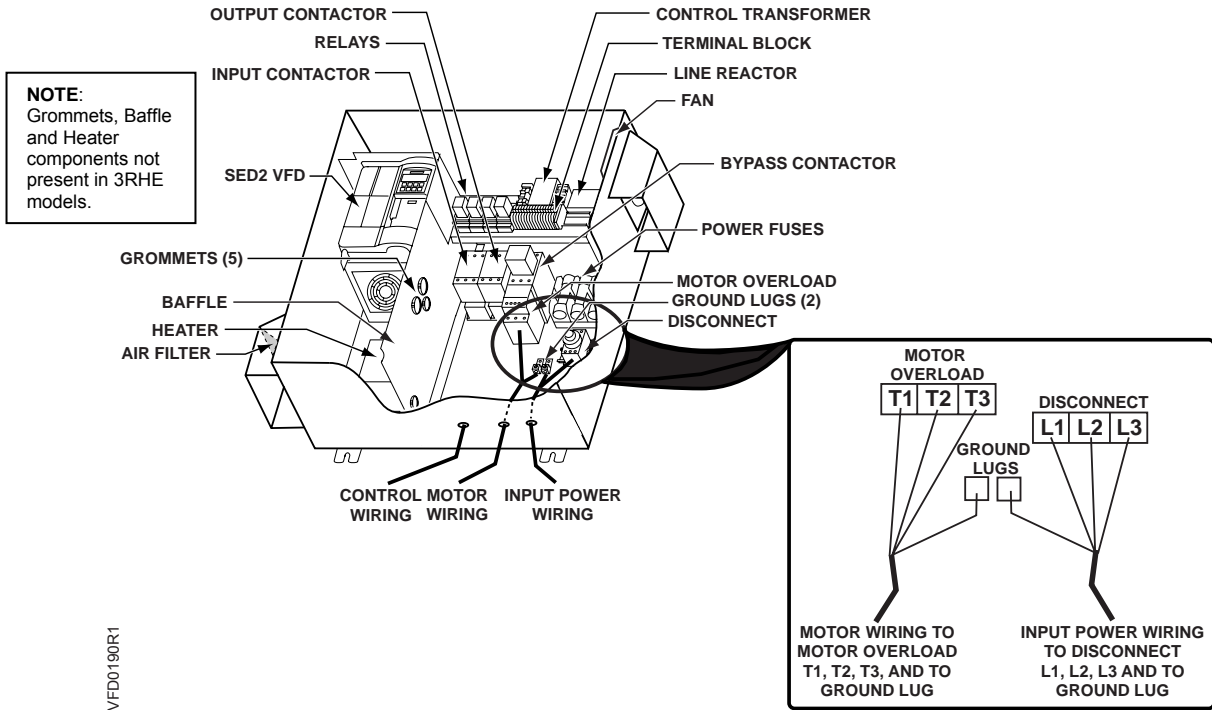

Figure 11. Routing of Power and Control Wiring for Enclosure Frame Size ABC, 3RHE AB.
2. Route shielded, twisted pair, 24-gauge minimum cable for *control wiring* in separate conduit into enclosure (Figure 11 through Figure 13). Connect control wiring per job drawings and Figure 9.
3. If applicable, route *communications wiring (P1)* in separate conduit into enclosure (Figure 11 through Figure 13). Continue to route communications wiring to VFD and terminate per *SED2 VFD Startup, Operation, and Maintenance Manual, (125-3201)*.
4. Route *motor wiring* in separate conduit into enclosure (Figure 11 through Figure 13). Connect motor wiring to motor overload and ground lug. See Tables 2 through 5 for wire sizes and tightening torques.
5. Route *input power wiring* in conduit into enclosure (Figure 11 through Figure 13). Connect input power wiring to disconnect switch and ground lug or to circuit breaker and ground lug. See Table 3 through Table 6 for wire sizes and tightening torques.
- See Figure 11 for installation notes.